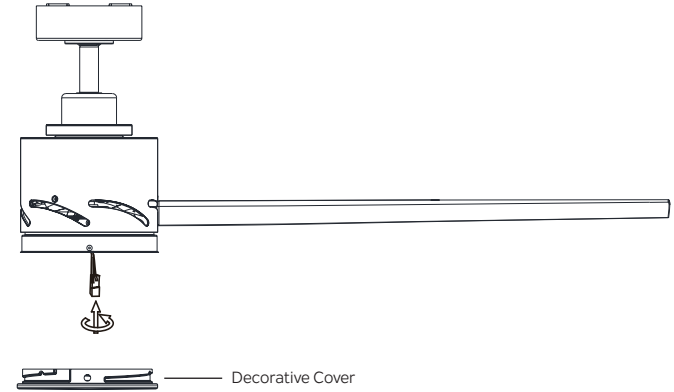

Fig. 19
Step 1. Raise the decorative cover up to the fan, seat against the mounting plate, and turn clockwise into the mounting plate until snug, **DO NOT OVER TIGHTEN.** (Fig. 19)